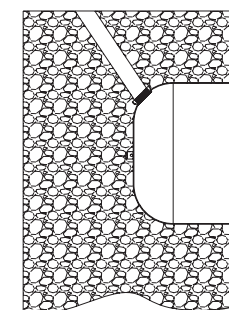

Figure 4
- 1) Embedded the lamp shell body into the cement wall and the edge of the lamp shell should be face flat by the swimming pool(Figure 4).